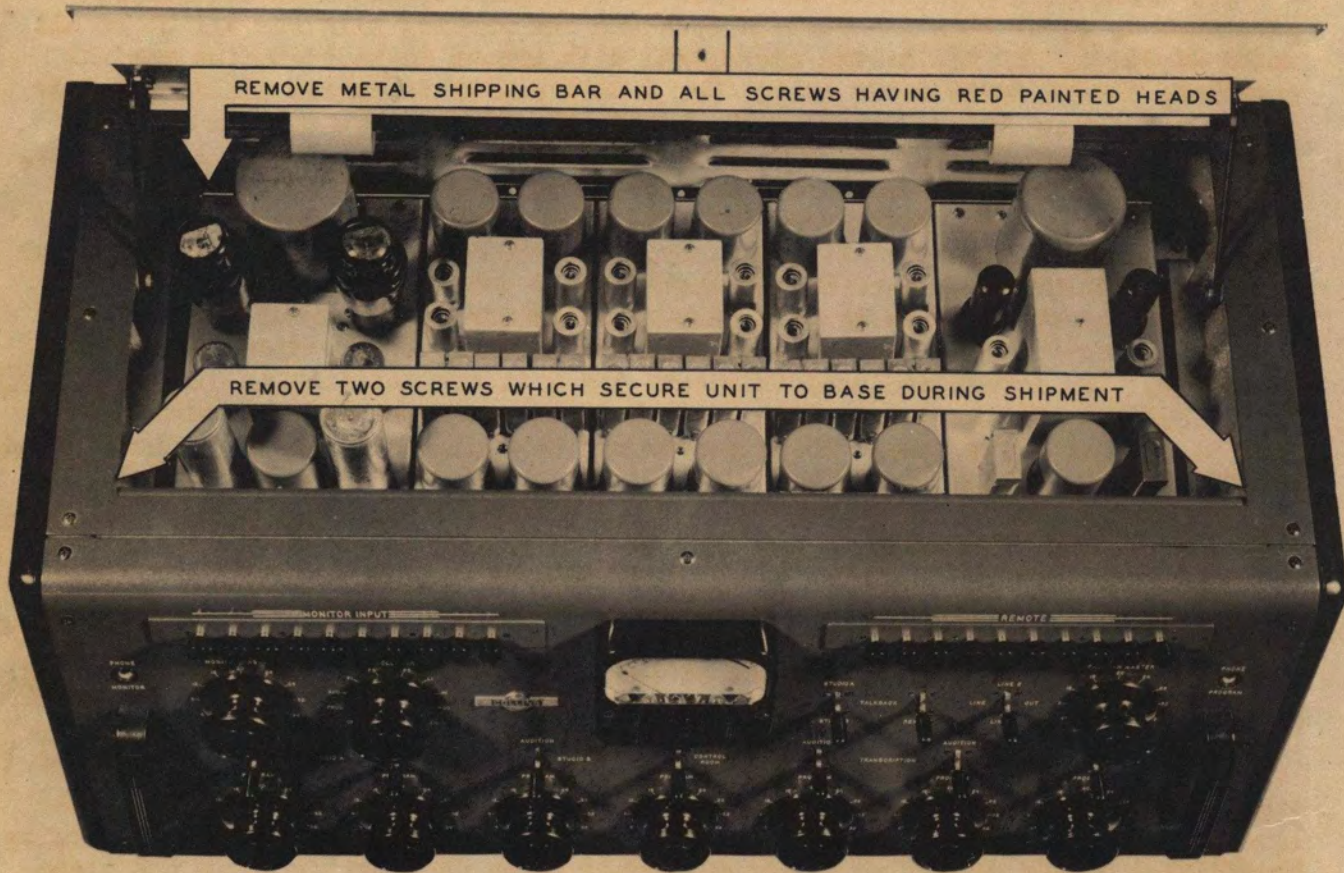

Figure 3-1 Location of Shipping Hardware
(1) UNPACKING. - Refer to the table of equipment supplied in Section I, paragraph 2. a. of this instruction book and the packing slip for a list of all units supplied. If the crates are marked with arrows to indicate the upright position, remove crate cover only. Use a nail puller to remove nails; a bar or hammer may damage the equipment within. Remove all packing material and lift each unit out carefully. Search all of the packing material for small packages. Inspect each unit for loose screws or bolts. Be certain all controls such as knobs, switches, etc., work properly. All claims for damage should be filed promptly with the transportation company. The console unit is shipped with four small wood blocks under each of the shockmounted sub chassis and a metal bar across the top of all five to hold them in place during shipment. After these have been removed, each amplifier chassis should float freely upon its rubber mountings. Two screws are used to secure the unit against tilting during shipment. Refer to figure 3-1. After removal of these screws the unit should be free to tilt upon its base. These screws may be replaced to prevent unauthorized personnel from tilting the unit.